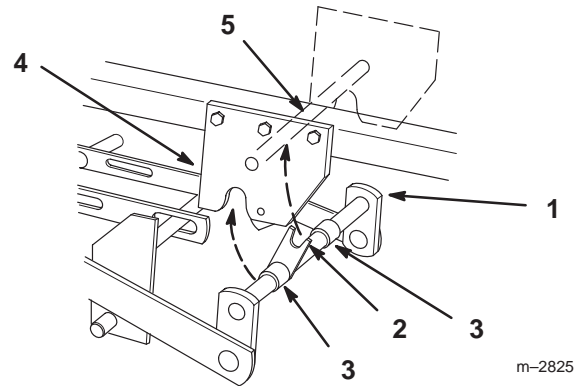

Figure 6
- Rotate front mounting shaft so fork faces up and align so spacers are between mid-mount hitch plates (Fig. 6).
- Lift mower with attachment lift and guide fork to capture hitch rod (Fig. 6). Close mid-mount hitch lock handle.